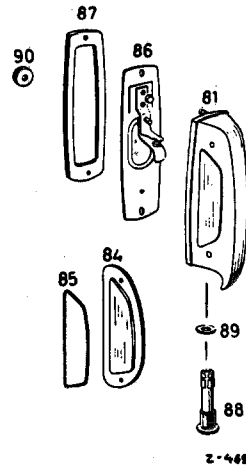

Fig. 82 — 12/1
1. Unscrew the closing plug (88) on the lower side of the license plate light and remove it together with the bulb (see Fig. 82 — 12/1).
2. Screw the closing plug, together with the bulb, into the license plate light. Do not forget the sealing ring (89) (Fig. 82 — 12/1).